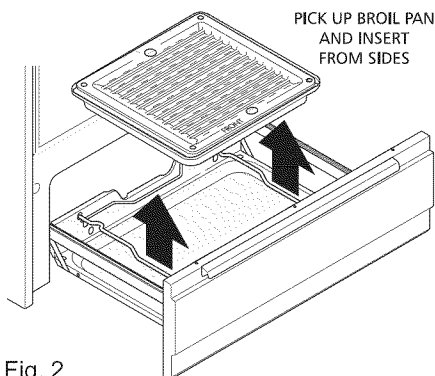

Fig. 2
2. Remove broiler pan & insert (Fig. 2).
6. Place broiler pan on rack; make sure the broiler pan and insert is positioned as shown (Fig. 2). Be sure front of pan is positioned correctly in rack.